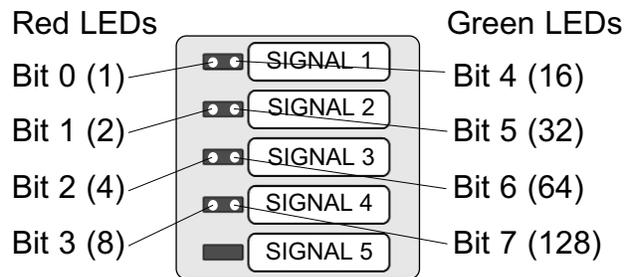

Figure 110: Binary data represented by LEDs
- Each number is displayed in a binary code where each multi-signal module LED has a binary value (Figure 110.).
- Network address is displayed for 2 s in a binary code where each multi-signal module LED has a binary value (Figure 110.).